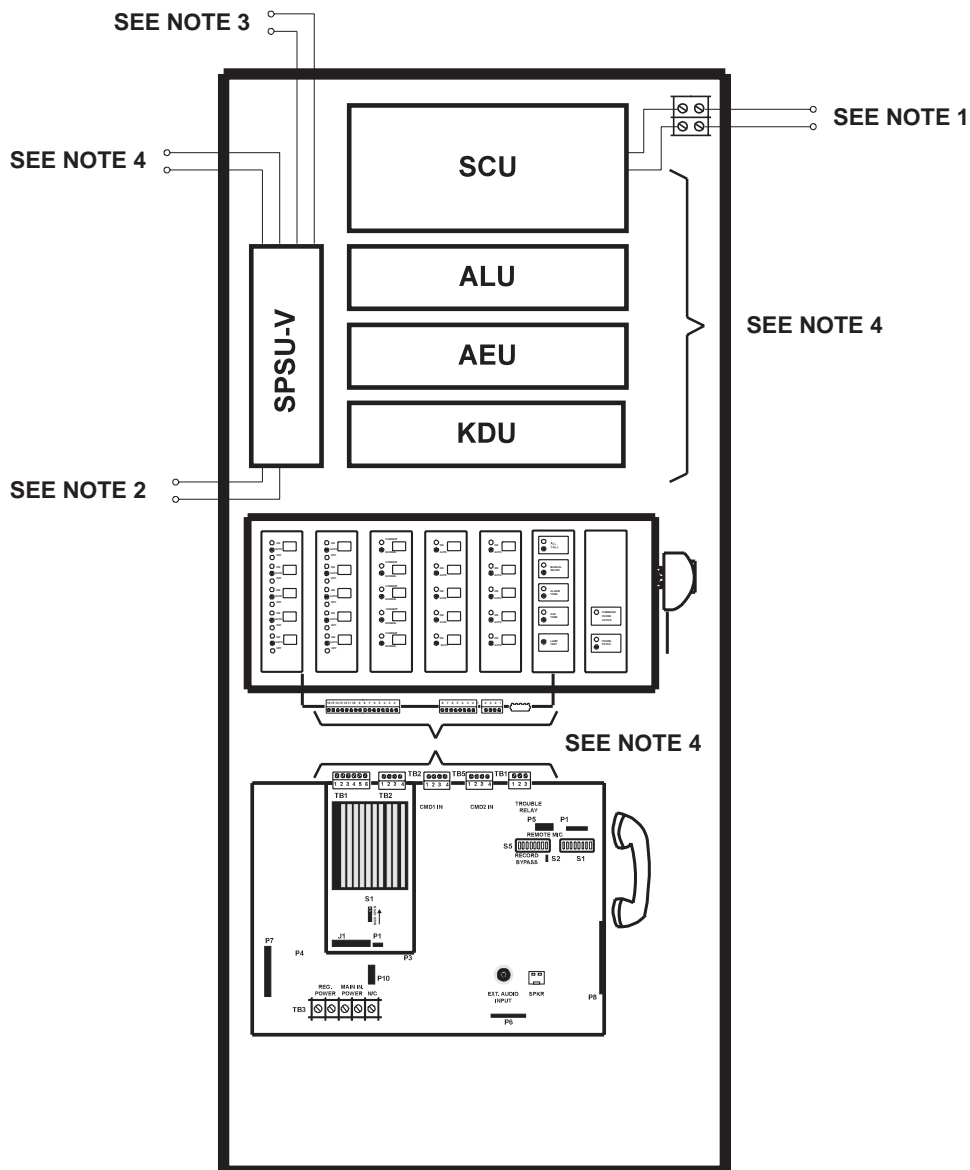

Figure 2-37
U.L. Standard 864 requires that a minimum of 1/4 inch separation be maintained between power limited and non-power limited circuits. The control unit is designed so the separation between power limited and non-power limited circuits is maintained at the field wiring terminals. To comply with these requirements, however, the minimum 1/4 inch separation must also be maintained between the field wiring conductors of power limited and non-power limited circuits. This may be accomplished by routing the wiring as shown in Figure 2-37. Unless otherwise indicated on the unit, all field wiring circuits are power limited except: